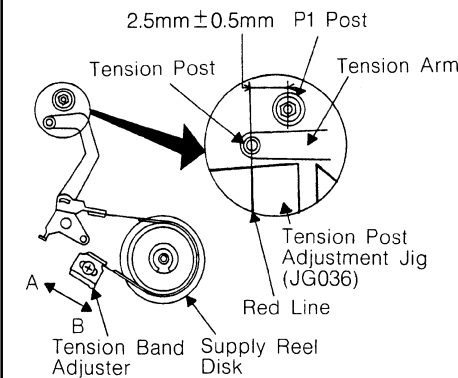

Fig. 1-2
2. Move the tension band adjuster to the "A" or the "B" direction to set tension post adjustment jig red line to the round edge of the tension post. (Refer to Fig. 1-2). When you don't use the jig (JG036), adjust until the flange round of P1 post is fit to the tension post round.